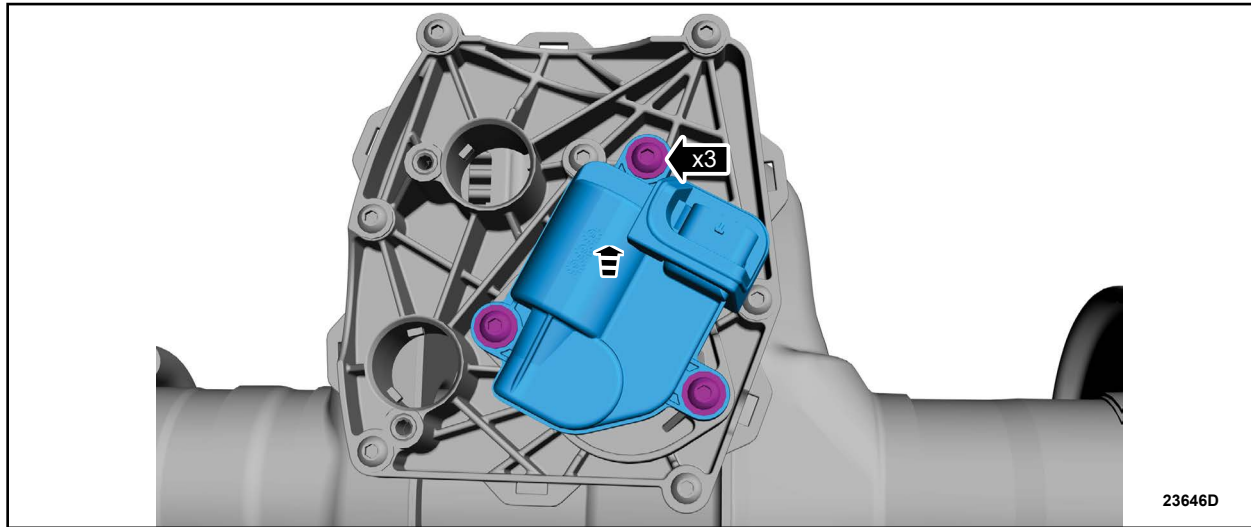

FIGURE 4
4. Remove the bolts and the exhaust heat exchanger actuator. See Figure 4.